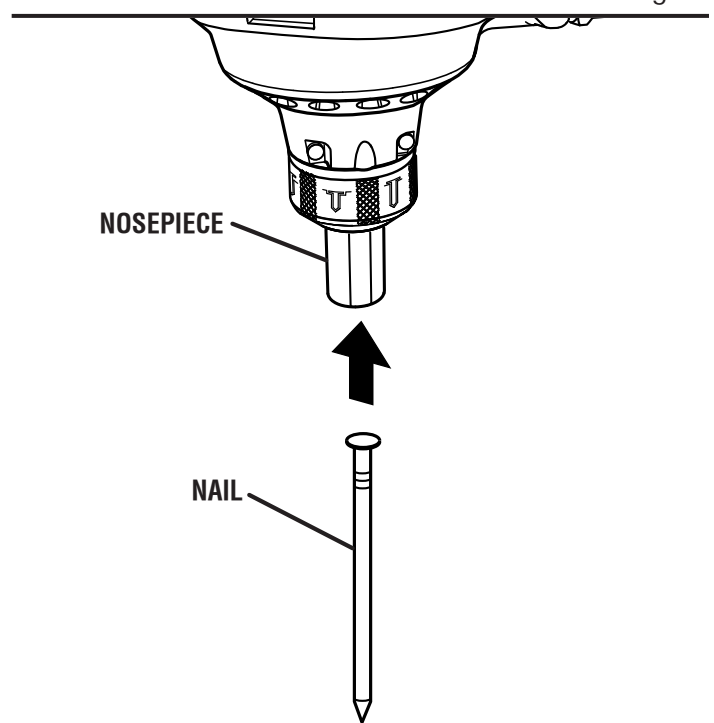

Fig. 4
- With the nose of the tool pointed away from you, feed a nail into the nosepiece. Be sure the nails are pointed downward and at the angle shown in figure 4.